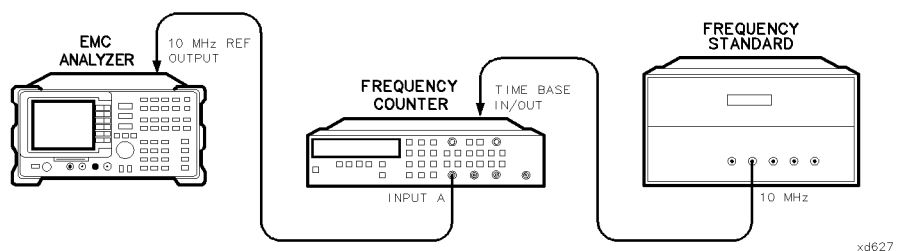

Figure 2-2.
1. Allow the EMC analyzer to sit with the power off for at least 60 minutes before proceeding. Connect the equipment as shown in Figure 2-2.